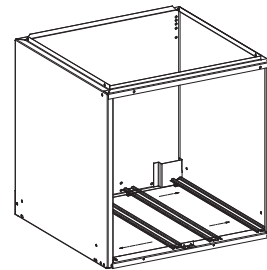

Fig. 5 – Support Rails Installation
4. Place the two **support rails** in the sides of the casing and the **collar** as indicated in Fig. 5 & 6.